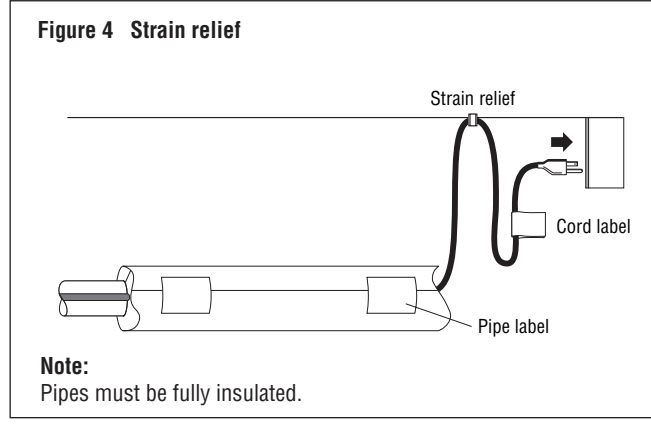

Figure 4 Strain relief
- To prevent damage to the heating cable or cord, secure the power cord (cold lead) with a plastic cable tie, glass cloth tape, or duct tape as shown in Figure 4.